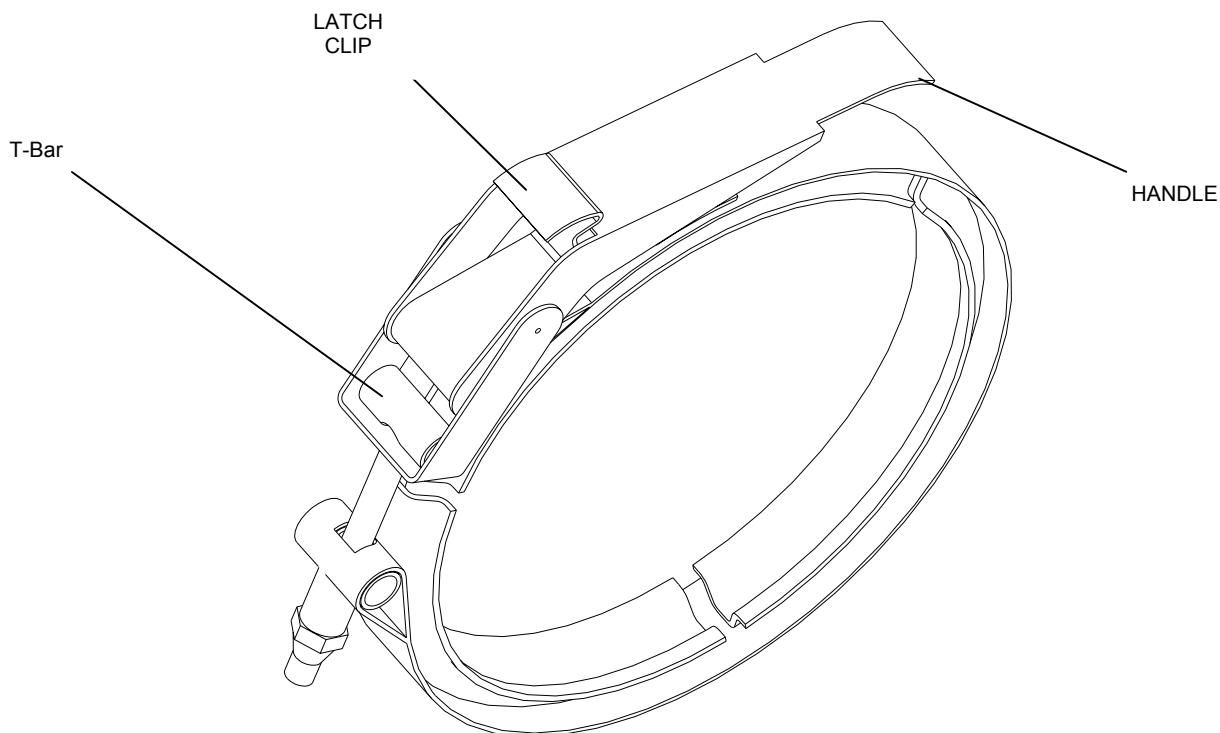

Figure 4-6 V-Retainer Coupling
4-2.1 Pan and Tilt Module (PTM) Assembly Installation (Figure 4-6 and 4-7)
1. Press latch clip and pull V-Retainer Coupling handle (Figure 4-6) on rooftop PTM mounting ring. Pull handle out until V-Retainer Coupling comes loose.
4-3.3 PTM Assembly Removal (Figure 4-6 and 4-7)
3. Press latch clip and pull V-Retainer Coupling handle (Figure 4-6) on rooftop PTM mounting ring. Pull handle out until coupling comes loose.